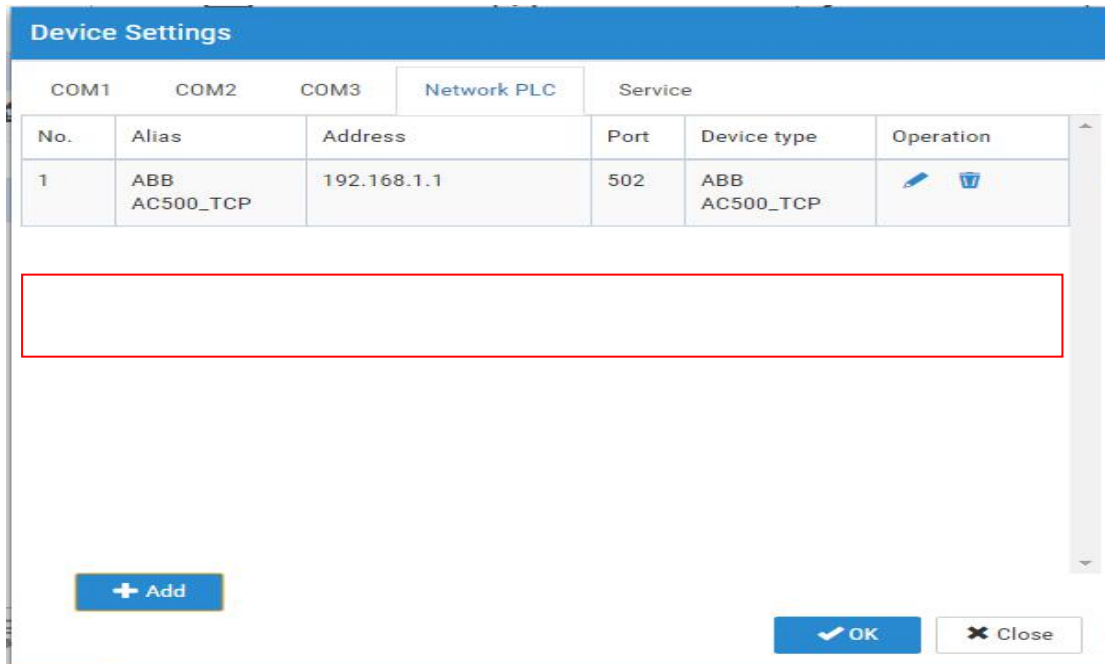

Fig. 4.4-10 Add an item of configuration for the network PLC
(5) After click the "OK" button in the "Network PLC Setting" dialog, an item of configuration for the network PLC in the "Network PLC" subtab page of the "Device Settings" dialog is added, as shown in Fig. 4.4-10.